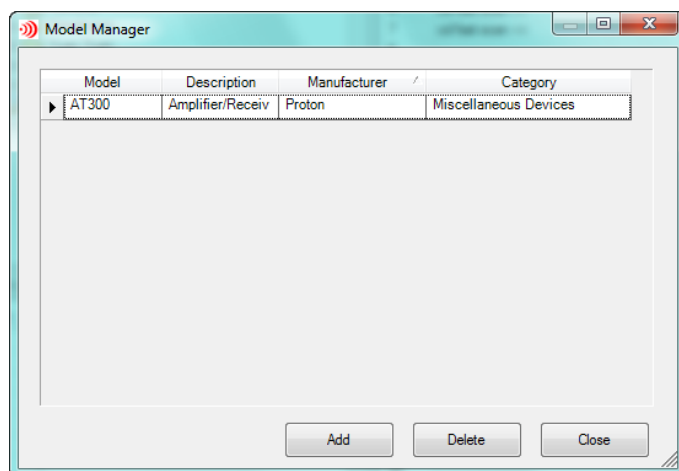

FIG. 27 Model Manager Dialog
2. **Model Name** provides a drop-down button, when selected will open the *Model Manager* dialog (FIG. 27):